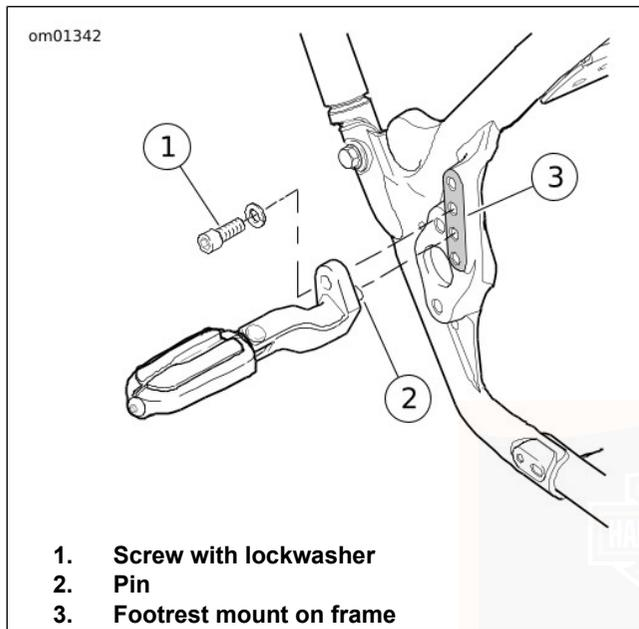

Figure 17. Passenger Footrest
1. See Figure 17. Remove socket screw with lockwasher to remove footrest bracket from footrest mount in frame.